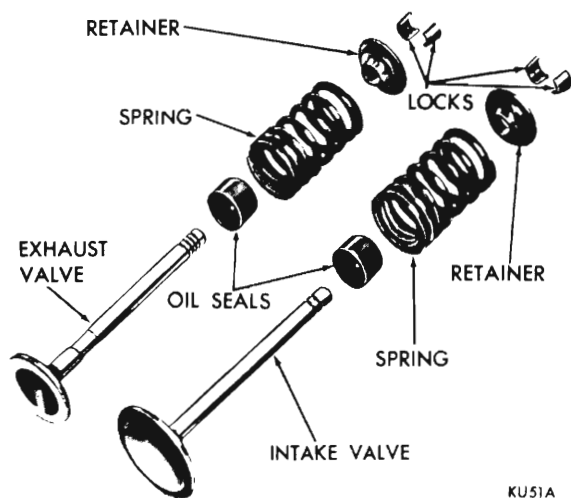

Fig. 18 - Valve assembly
(2) Install new cup seals on all valve stems and over valve guides (Fig. 18). Install valve springs and retainers. Install springs so that closed coils are against cylinder head (where applicable).
(3) Compress the valve springs with a valve spring compressor, install locks and release tool.